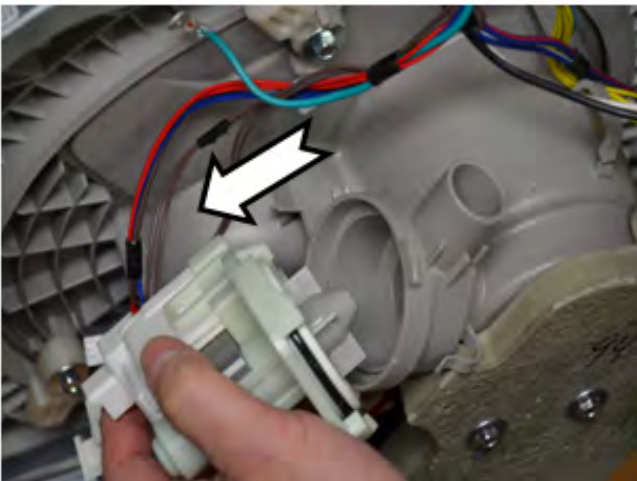

Figure 8
7. Remove the drain pump, see figure 8.